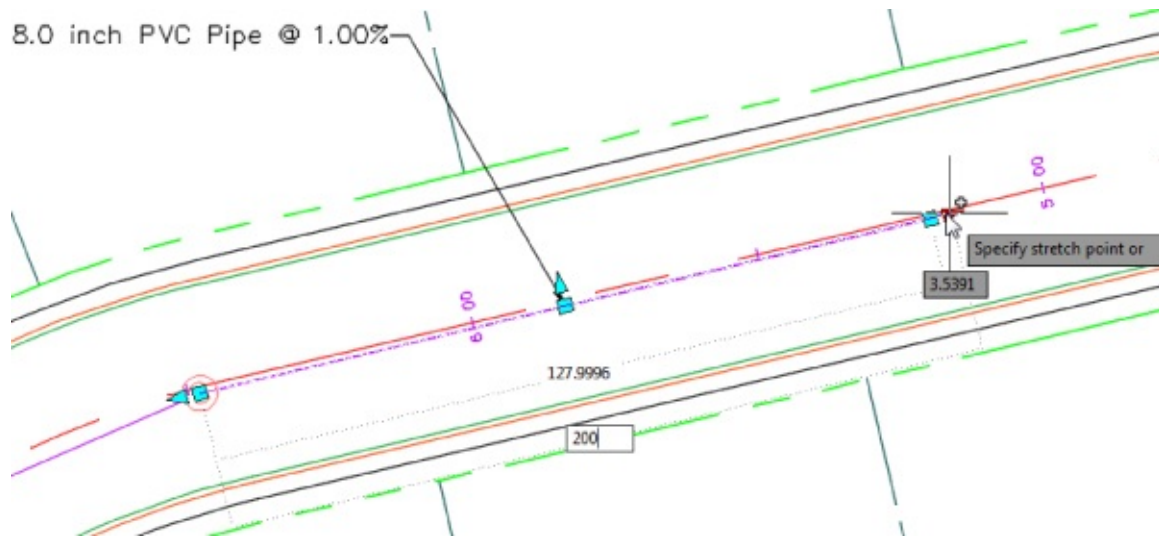

Figure 13.48 Lengthen the pipe to 200' (60.96 m).
16. Press the Tab key to switch the input to the overall length of the pipe. Enter **200'** (60.96 m), as shown in Figure 13.48.